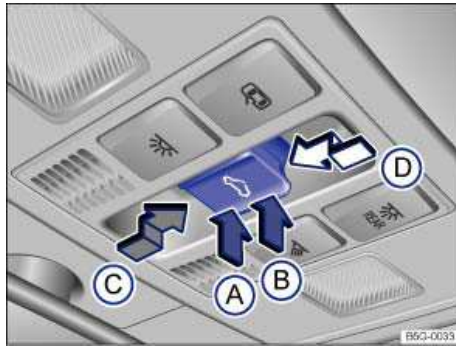

Fig. 31 In the headliner: Power sunroof switch.
The  switch ⇒ fig. 31 has 2 detents for each switch position ((A), (B), (C), and (D)), which are described in the following table.
- Press the  button ⇒ fig. 31 within about 5 seconds after the sunroof has stopped and hold it in the direction of the arrow (D) at the second detent until the power sunroof closes completely.